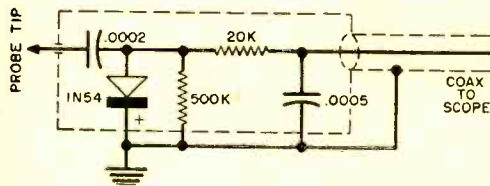

Fig. 1. Simple demodulator probe for use with high-frequency voltages.
**Demodulator Probe.** Many times it is desirable to check v.h.f. or microwave signals at frequencies above the range of the 'scope. Or you might want to be able to view the audio or video component that is modulating a high-frequency carrier. A demodulator probe is illustrated in Fig. 1.
Fundamentally, synchros may be described as either electric motors or generators, depending upon their position in the system. A synchro comprises a *stator*, or stationary set of coils, and a *rotor* that can turn freely on its bearings. The most common synchro type employs a stator with three magnetic poles and a two-pole, bobbin type of rotor (Fig. 1).
Fig. 1. A common type of synchro motor or generator. The stator consists of three windings spaced  $120^\circ$  apart with three poles facing inward toward the two-pole rotor.